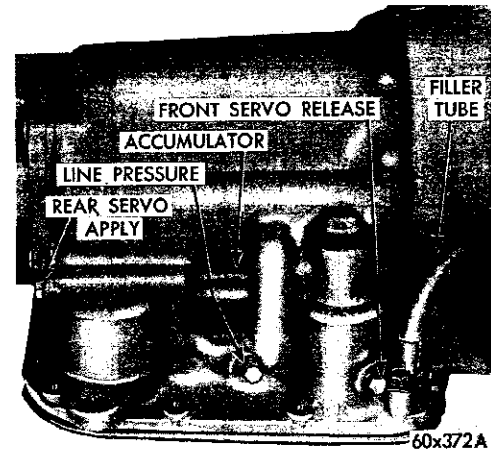

Fig. 24—Pressure Test Locations (Right Side of Case)
(1) Install an engine tachometer, raise the car on a hoist and position the tachometer so it can be read under the car.
(2) Connect two 0-100 psi pressure gauges, Tool C-3292 to pressure take-off-points at the side of the accumulator and at the front servo release (Fig. 24).
(3) With the control in D (drive) position, speed up the engine slightly until the transmission shifts into direct. (Front servo release will be pressurized in direct). Reduce engine speed slowly to 1,000 rpm. Line pressure at this time (1,000 rpm) must be 54-60 psi, and the front servo release pressure must not be more than 3 psi below line pressure.
(4) Disconnect the throttle linkage from the transmission throttle lever and move the throttle lever